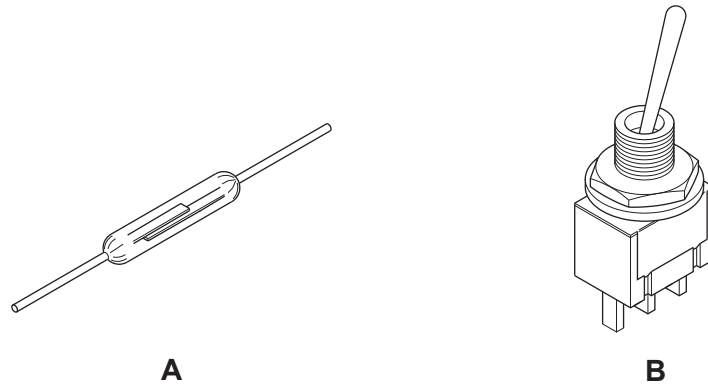

Fig. 7.1
- 7 (a) Name the two types of switch shown in Fig. 7.1.